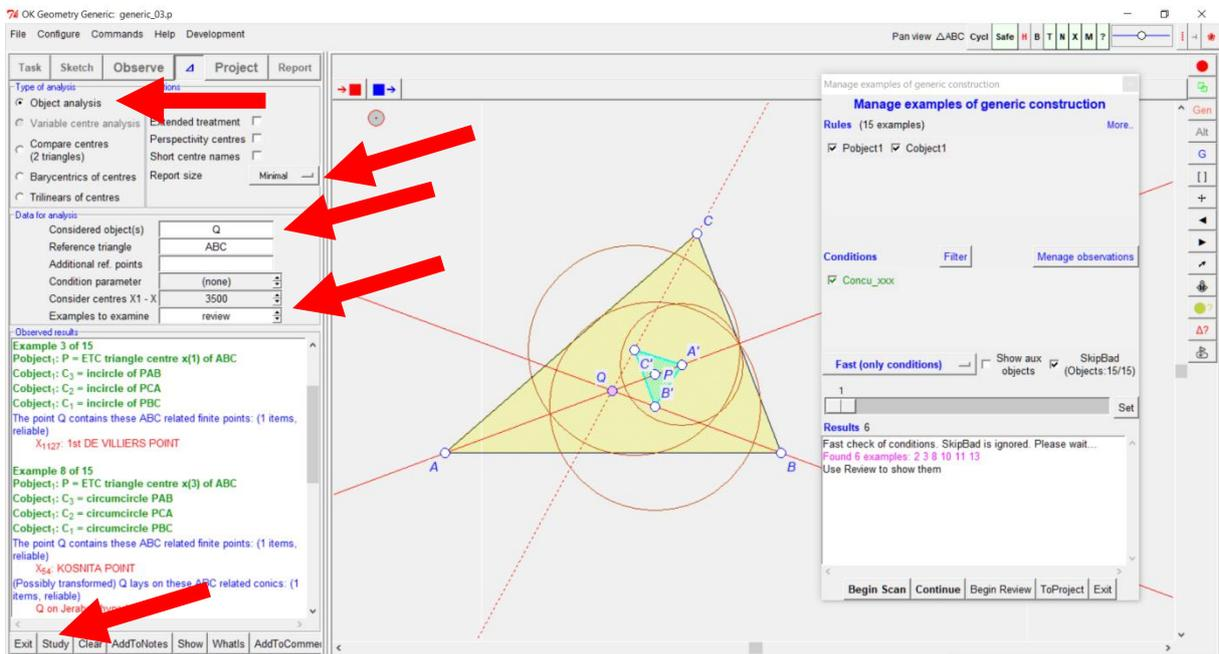

Figure 67
6. Carefully fill some data in the form that appears (Figure 67):